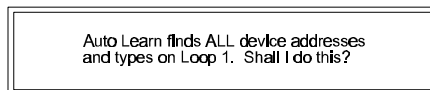

Figure 13: Auto Learn Submenu One
- Pressing **NO** will cause the panel to simply calibrate all the devices on the circuit and display the number and types of devices (see Figure 13). Press any key to return to the Configure Submenu (see Figure 15).